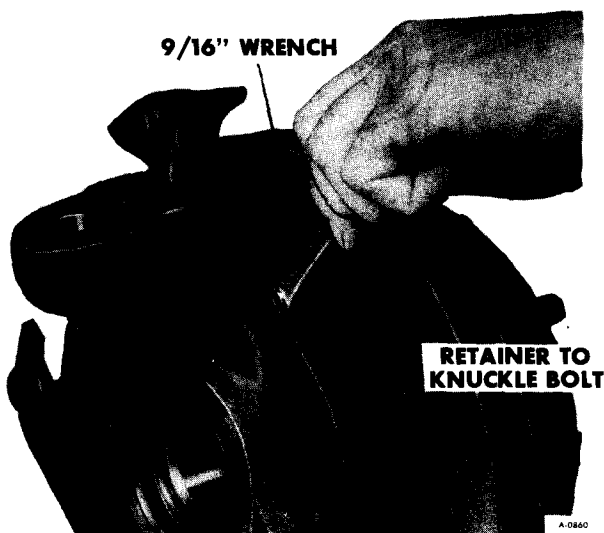
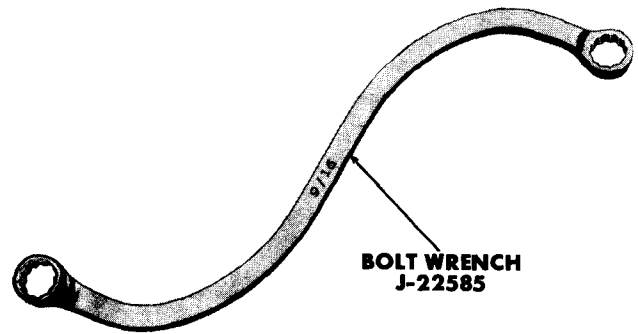

Figure 8—Retainer Bolt Removal
Figure 9—Front Hub Retainer Bolt Wrench J-22585
8. Loosen uniformly and remove the three bolts securing the retainer to the knuckle (figure 8). Removal of these bolts may be expedited by the use of special Bolt Wrench J-22585 (figure 9).